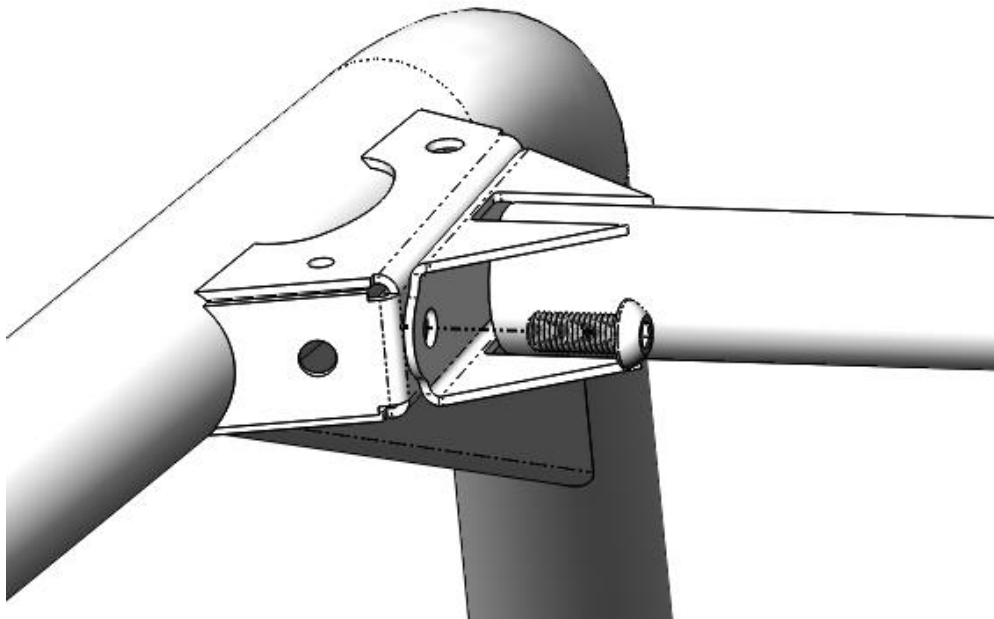

Figure 3: Remove the factory cross member bolt.
2. Remove the factory bolt from the front cross member as indicated in Figure 3. The bolt will be reused. Note: Driver side shown. (Passenger side similar)